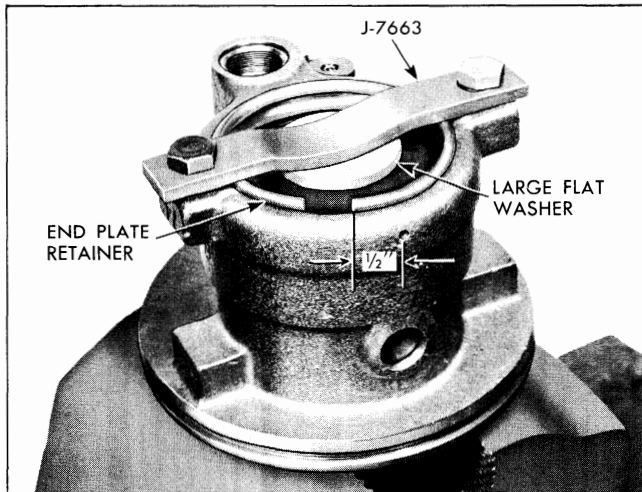

Fig. 9A-48 Installing End Plate Using J-7663
9. Lubricate outside diameter and edge with radius of pressure plate with vaseline (to insure against damaging "O" ring) and install on dowel pins with ported face toward the pump ring, see Fig. 9A-47. Apply pressure to outer edge only to seat pressure plate. DO NOT press or hammer on the center of the pressure plate as this will score the face of the plate towards the pump rotor causing permanent distortion with resulting pump failure. (Pressure plate will travel about $\frac{1}{16}$ " to seat.)